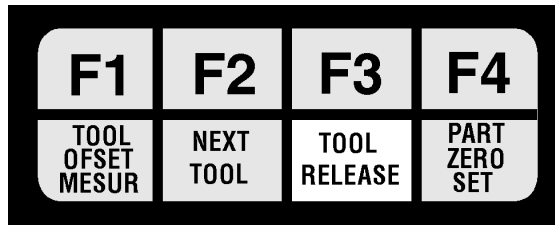

Fig. 6-8 Control panel highlighting tool release button.
4. While activating tool release (Figure 6-8), tap unclamp switch assembly towards spring retainer until it just trips. *On earlier machines, loosen or*